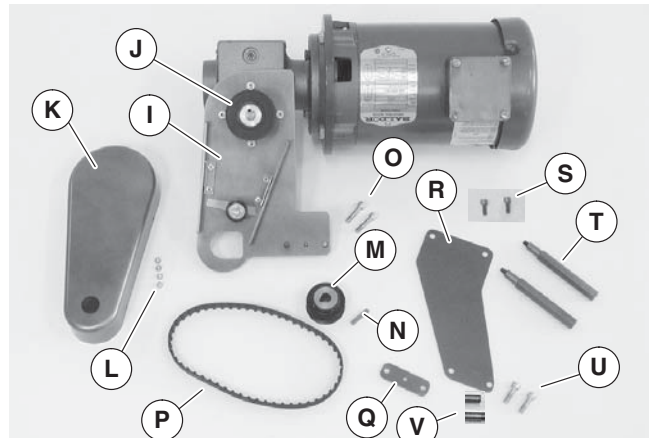

Figure 2
1. Typical components (Figure 2)
Support Plate Spacer (Figure 2, item Q) required for 2" & 3" wide conveyors only.
4100 conveyors do not include items Q through U of Figure 2.